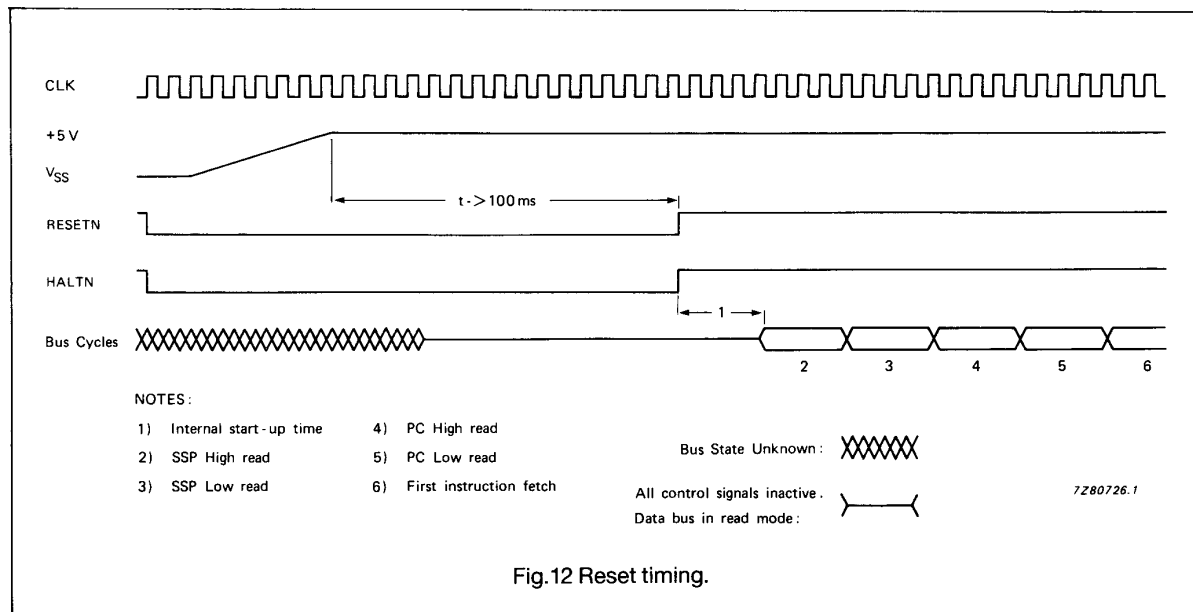

Fig.12 Reset timing.
When the CPU executes a RESET instruction, the RESETN signal is driven LOW for 146 clock cycles to reset internal and external peripherals. The CPU itself is not affected but all on-chip peripherals are reset. When both the RESETN and HALTN signals are driven LOW by an external device, the CPU and on-chip peripherals are reset. The CPU responds by reading the reset vector table entry (vector number zero, address 000000H) and loads it to the Supervisor Stack Pointer (SSP). Vector table entry number one (at address 000004H) is read next and loaded into the Program Counter (PC). The CPU then initializes the Status Register (SR) to an interrupt level of seven and instruction execution is started (see Fig.12). All 3-state output signals are placed in the high-impedance state for as long as the RESETN and HALTN signals are externally driven. When the RESETN and HALTN signals are released, the CPU will execute 4 read cycles after start-up time, to load the SSP High, SSP Low, PC High and PC Low. Then the first instruction is fetched and executed. The HALTN signal must be driven LOW at the same time as the RESETN signal. The SCC68070 will only start to read the stack and the initial Program Counter after both signals have been released. RESETN should not be released after HALTN. When V_{DD} is initially applied to the SCC68070, an external RESET must be applied to the RESETN pins for at least 100 ms.